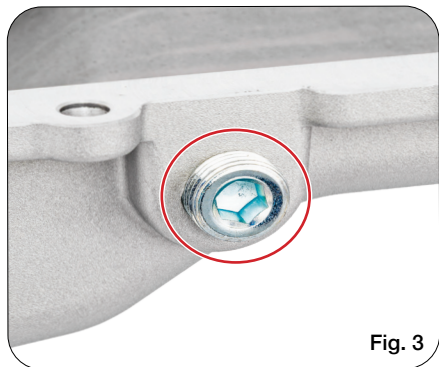

Fig. 3
22. For turbocharged applications connect the turbo drain lines to either, or both, sides of the oil pan. For single turbo applications, plug the unused port with one of the supplied $\frac{1}{2}$ " NPT port plugs. Wrap threads in teflon tape prior to installation. (Figure 3)